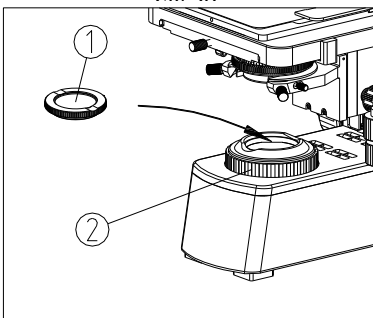

Fig.37
(1) Put the polarizer (1) into the condenser group groove (2). (See Fig.37)